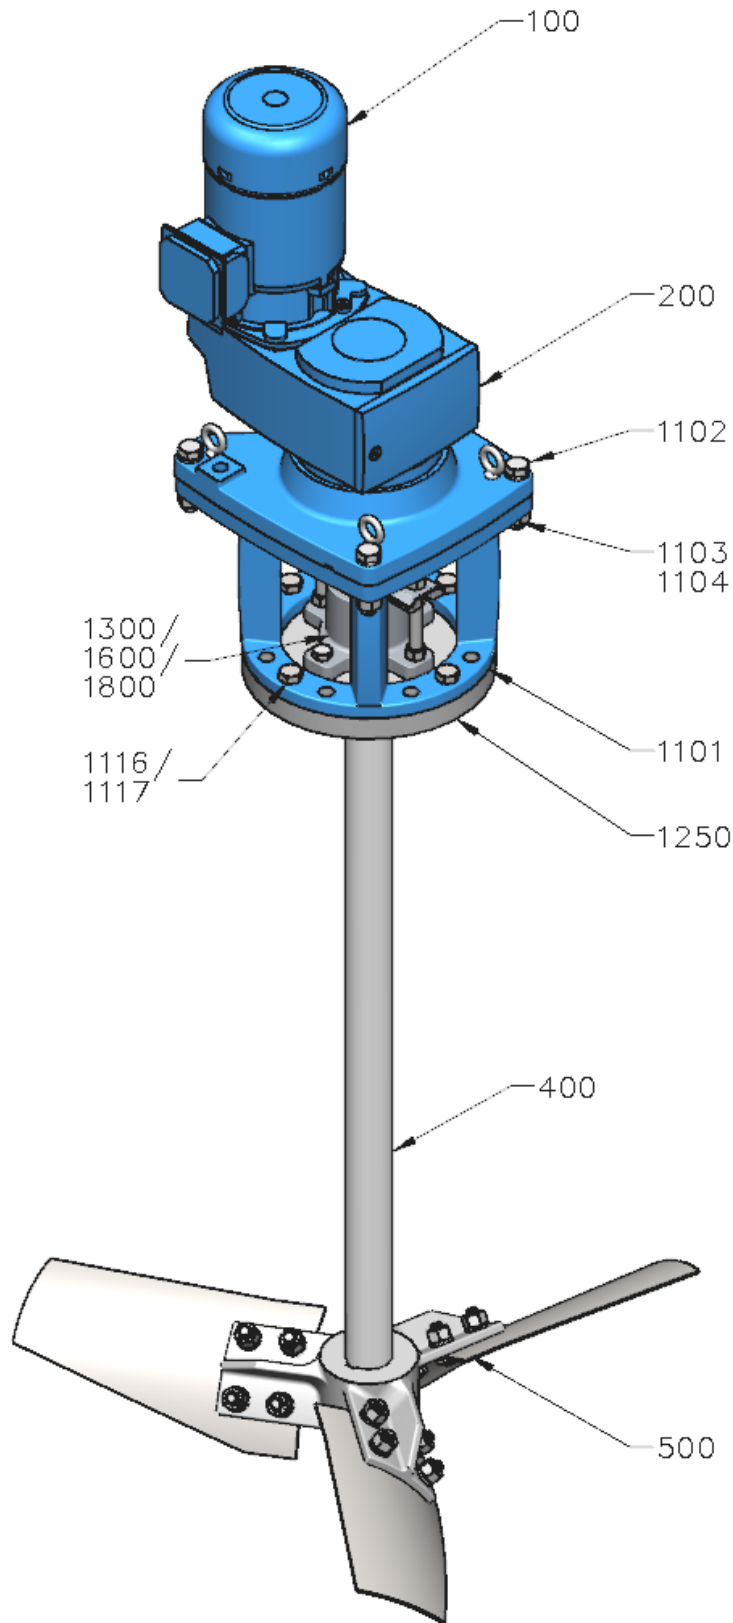

Figure 3. MRA, MRL, MRNT Agitator Assembly
3. Install handhole cover bolts, lockwashers [1106, 1107] into the pedestal [1101]. Refer to Figure 12 and Figure 13, page 32. Assemble the pedestal to mounting flange [1251] using bolts and lockwashers [1116, 1117] (see Figure 3). Torque bolts to value shown in the APPENDIX, Page 89. Install gear drive support pedestal/mounting flange assembly to vessel nozzle, along with the gasket and fastener set furnished by customer (on stud mounted units, studs [1258] are supplied by Chemineer).